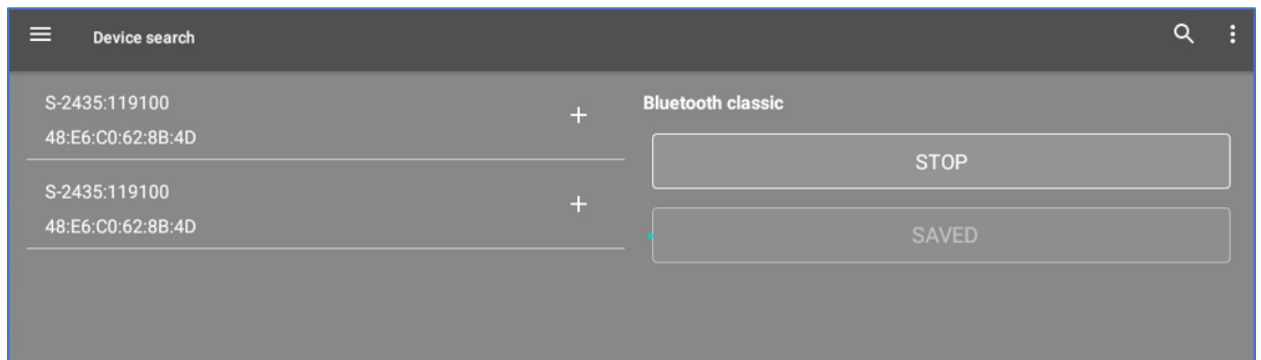

fig.3.5. Found GPS trackers
- 4) App will display the found Bluetooth-devices. Click “+” to add a GPS tracker (fig.3.5).